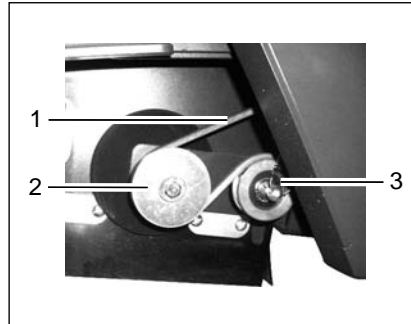

Fig. 43
3. Remove the belt (Fig. 43/1) from the pulleys (Fig. 43/2+3).
- The belt tension is set by means of a spring mounted tension pulley (Fig. 43/3).